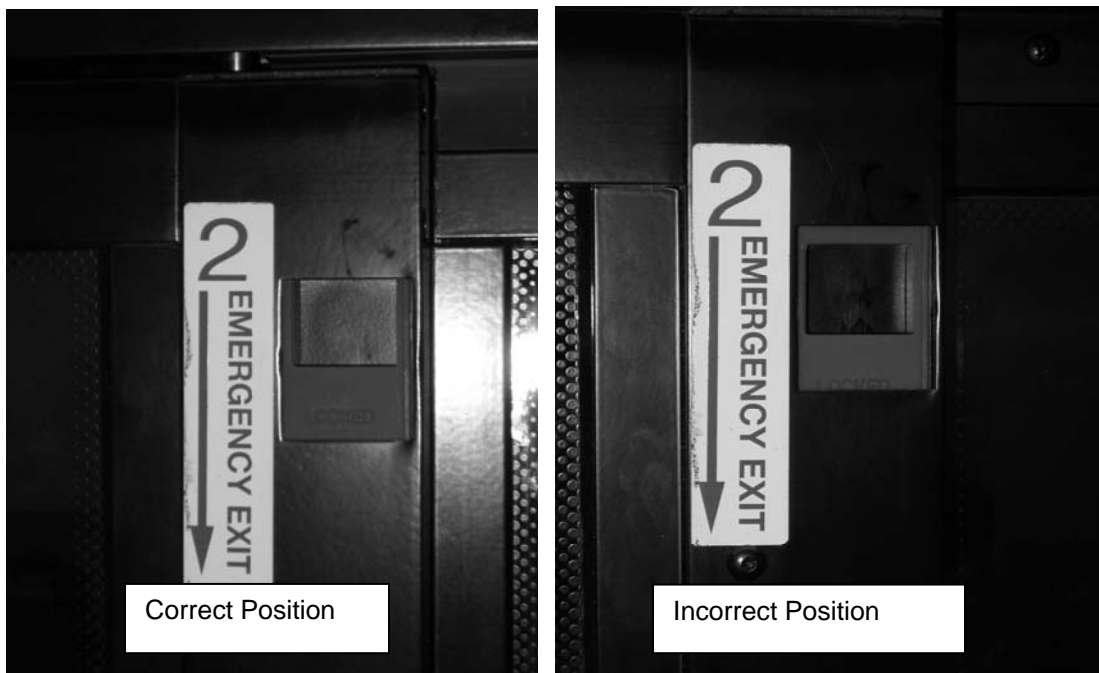

FIGURE 45: RELEASE LATCH PROPER POSITION
2. Position the left hand lower corner of the sash over the front cam follower block (Figure 45)